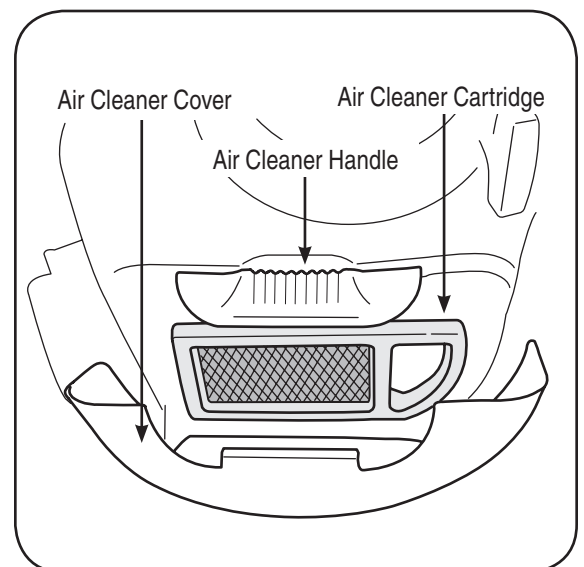

Figure 5-2: Use the air cleaner handle to access the air cleaner cartridge.
1. Pull up on air cleaner handle, Figure 5-2, and pull back towards the engine.
2. Remove the air cleaner cover, Figure 5-2.